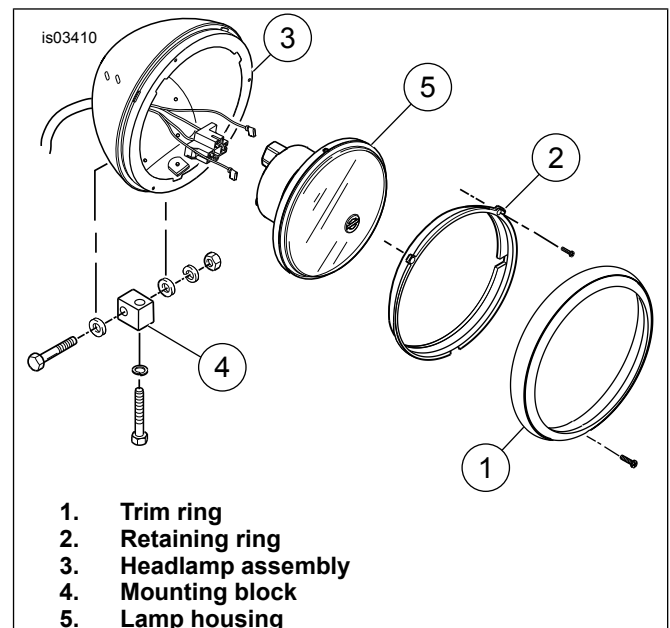

Figure 1. Headlamp Assembly
3. See Figure 1. Remove trim ring screw and trim ring (1).
4. Remove three retaining ring screws and retaining ring (2) from headlamp assembly (3). Pull lamp bulb out of connector.
9. See Figure 1. Remove the mounting block (4) and mounting block hardware.